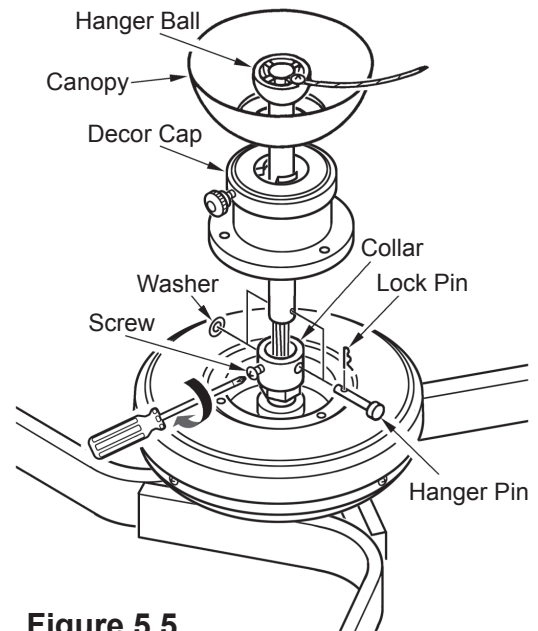

Figure 5.5
Step 5. Route wires exiting the top of the Collar through the Decorative Cap, the Canopy and the Ball/Downrod. Align the holes at the bottom of the Downrod with the holes in the Collar. Carefully insert the Hanger Pin through the holes in the Collar and the Downrod. Be careful not to jam the pin against the wiring inside the Downrod. Slide the Washer over the end of the Hanger Pin. Next, insert the Lock Pin through the hole near the end of the Hanger Pin until it snaps into its locked position. (Fig. 5.5)